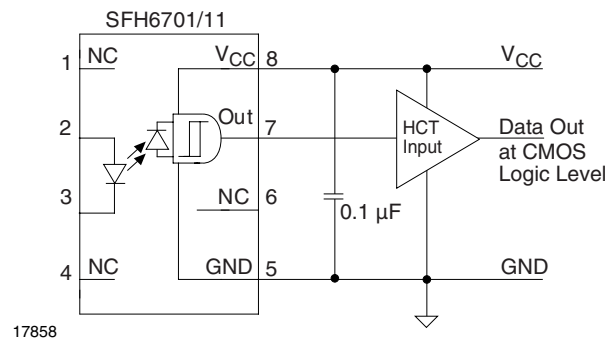

Fig. 10 - Interfacing to CMOS Logic Level via a HCT Device
- Using an HCT logic device (see figure 10)
Using an HCT device is the simplest and most convenient solution to eliminate the external pull-up resistor (see figure 10). The designer doesn't have to worry about power consumption, rise times, or system speed.